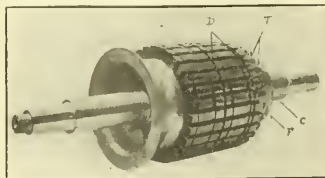

FIG. 7.—ARMATURE CORE.
After boring and turning to proper diameter, the casting (M) has the keyways (K) and (J) cut, to prevent turning of the core and commutator, respectively. The core is now ready to be built. It consists of iron punchings, a few mils thick, assembled on the casting (M), as shown in Fig. 7. The keyway and key serves also to line up these punchings or laminations so that the slots (T) will be properly formed. After the proper amount of laminations are put in the spider, they are put under a pressure of about forty tons, the front end bell (F) put into place, and the ring nut (R) screwed on the threads (H), which holds all in place and under pressure.
While the core is being built up there are placed at certain positions a lamination with raised ribs, so as to leave openings in the core, and so that it will not be of one solid mass. The position of these special laminations are shown at D, Fig. 7. These openings or ducts communicate with the
commutator assembled ready to press on the spider and half of a diametrical cross section. The commutator is made up of a certain number of bars (A), according to the number of slots (T) in the core (Fig. 7), and the number of coils placed in these slots. Each bar (A) is practically the same shape, as shown in the cross sections and about $\frac{1}{4}$ in. thick, and each is insulated from